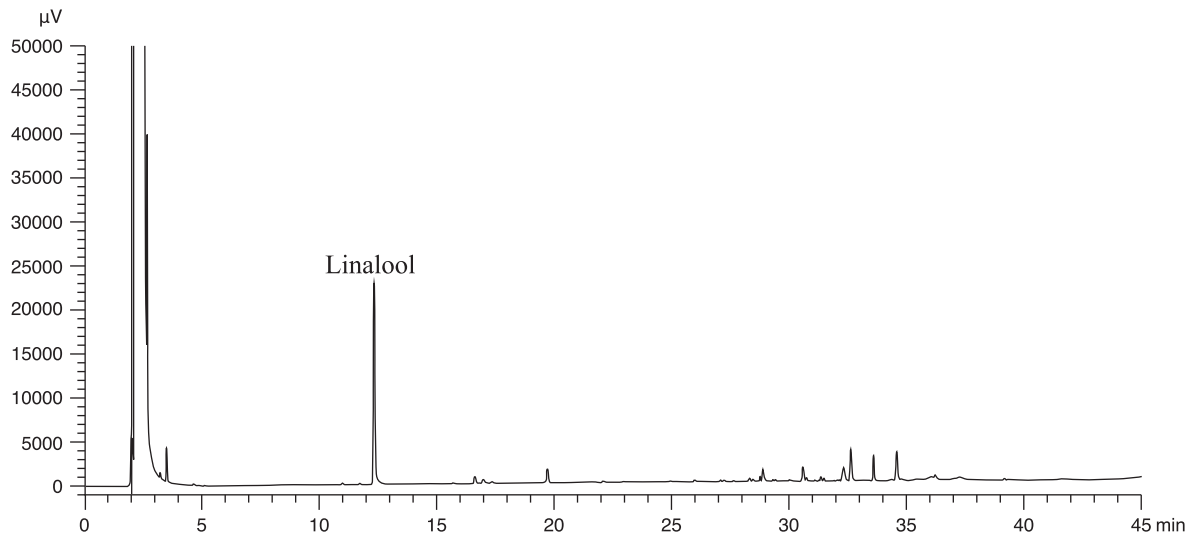

Figure 7 A reference GC assay chromatogram of *Homalomenae Rhizoma* extract
The *R* value between linalool peak and the closest peak in the chromatogram of the test solution should not be less than 1.5 (Fig. 7).
Inject 2 μL of the test solution into the GC system and record the chromatogram. Identify linalool peak (Fig. 7) in the chromatogram of the test solution by comparing its retention time with that in the chromatogram of linalool Std-AS. The retention times of linalool peaks from the two chromatograms should not differ by more than 5.0%. Measure the peak area and calculate the concentration (in milligram per litre) of linalool in the test solution, and calculate the percentage content of linalool in the sample by using the equations as indicated in Appendix IV (B).